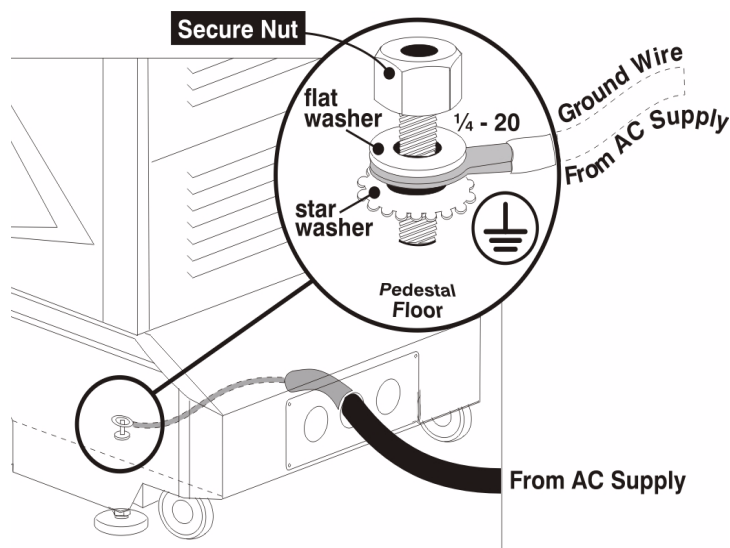

Figure 3-20 Connect Incoming Ground Wire
2. Connect the incoming AC ground lead directly to the frame ground stud on the floor of the pedestal (**Figure 3-20**). Secure with both washers and nut provided, and ensure there are no other wires present at this stud. **Warning!** Connect ground FIRST to reduce shock hazard from high leakage.